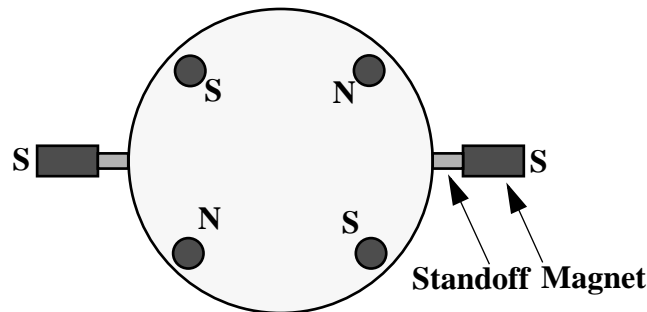

Figure 1: Polarities of the magnet/standoff assemblies.
8. Prepare the plungers: Lay out a clean piece of UHV foil in a convenient position near the oven. Lay out the plungers on the foil in an arrangement similar to the magnet positions in Figure 1. The magnets are placed so that polarities of the magnets alternate; this is to minimize coupling of the optic to time-varying ambient magnetic fields. For each magnet/standoff assembly, double-check the magnet polarity and standoff type and install it into the corresponding plunger, with the standoff end outwards and with only about 1 mm of the magnet visible. (A magnetic compass is convenient for checking the polarity.) Gently press on the end of the standoff to ensure that the magnet/standoff assembly is gripped firmly and will not slide into the plunger.